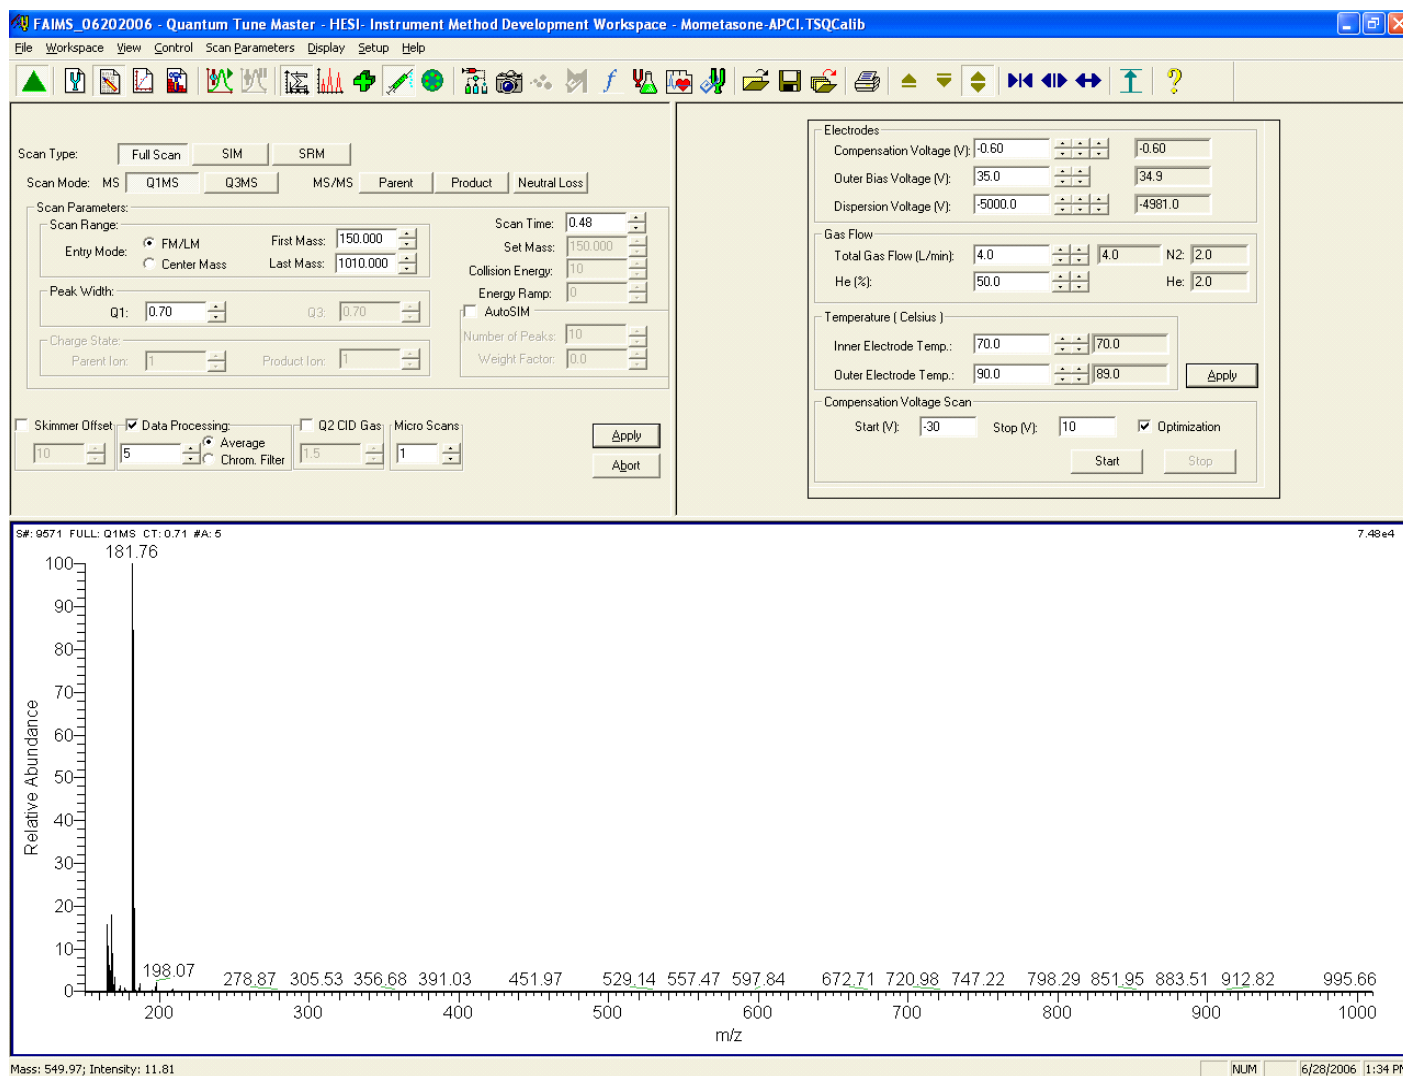

Figure 36. Mass spectrum with FAIMS selection of polytyrosine - 1
4. Enter **-0.60** in the Compensation Voltage box and click **Apply** to select the polytyrosine - 1 ion. Figure 36 shows the mass spectrum with FAIMS selection of the polytyrosine - 1 ion.